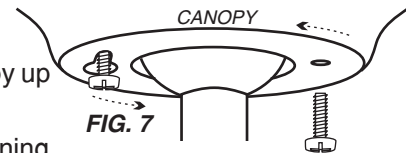

FIG. 7
A. With the motor in place and the wires out of the way, slide the canopy up to the hanging bracket. The canopy screw in the bracket will come through the large end of the key slot in the canopy. Fig. 7. Turn the canopy slightly, counter-clockwise, to hold in place, and insert remaining canopy screw. Tighten the screws.